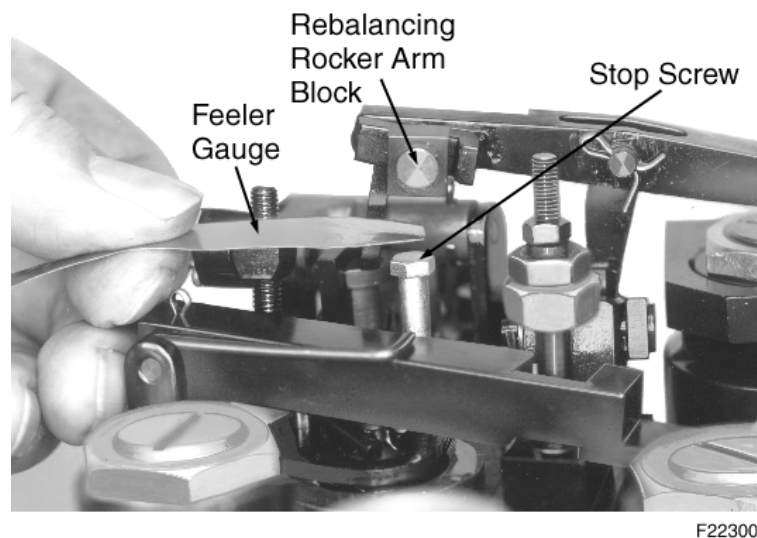

Figure 12-11. Rebalancing Stop Screw Adjustment .
The rebalancer rocker arm, Figure 12-11, adjusts the load to the air available for combustion. The setting of the rebalancer rocker arm stop screw determines the balanced injector rack position at the minimum air box pressure required for full load. At air box pressures below that required for full load, the rebalancer rocker arm positions the pilot valve to limit the load in proportion to the available air pressure.
1. Loosen the locknut and screw down the rebalancer rocker arm stop screw, Figure 12-11 , to ensure no interference during loading of the governor on the test stand.
3. Using a 0.001"-0.002" feeler gauge under the rebalancer rocker arm block, Figure 12-11, run the screw up until a drag is felt on the gauge as it is pulled from under the block. Tighten locknut.